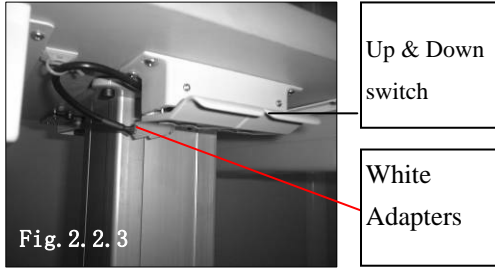

Fig.2.2.2
- Lift the tabletop to align its screw holes to the assembly holes of the instrument table. (Fig.2.2.2)
- Fix the tabletop with the power switch facing to the operator. (Fig.2.2.2)